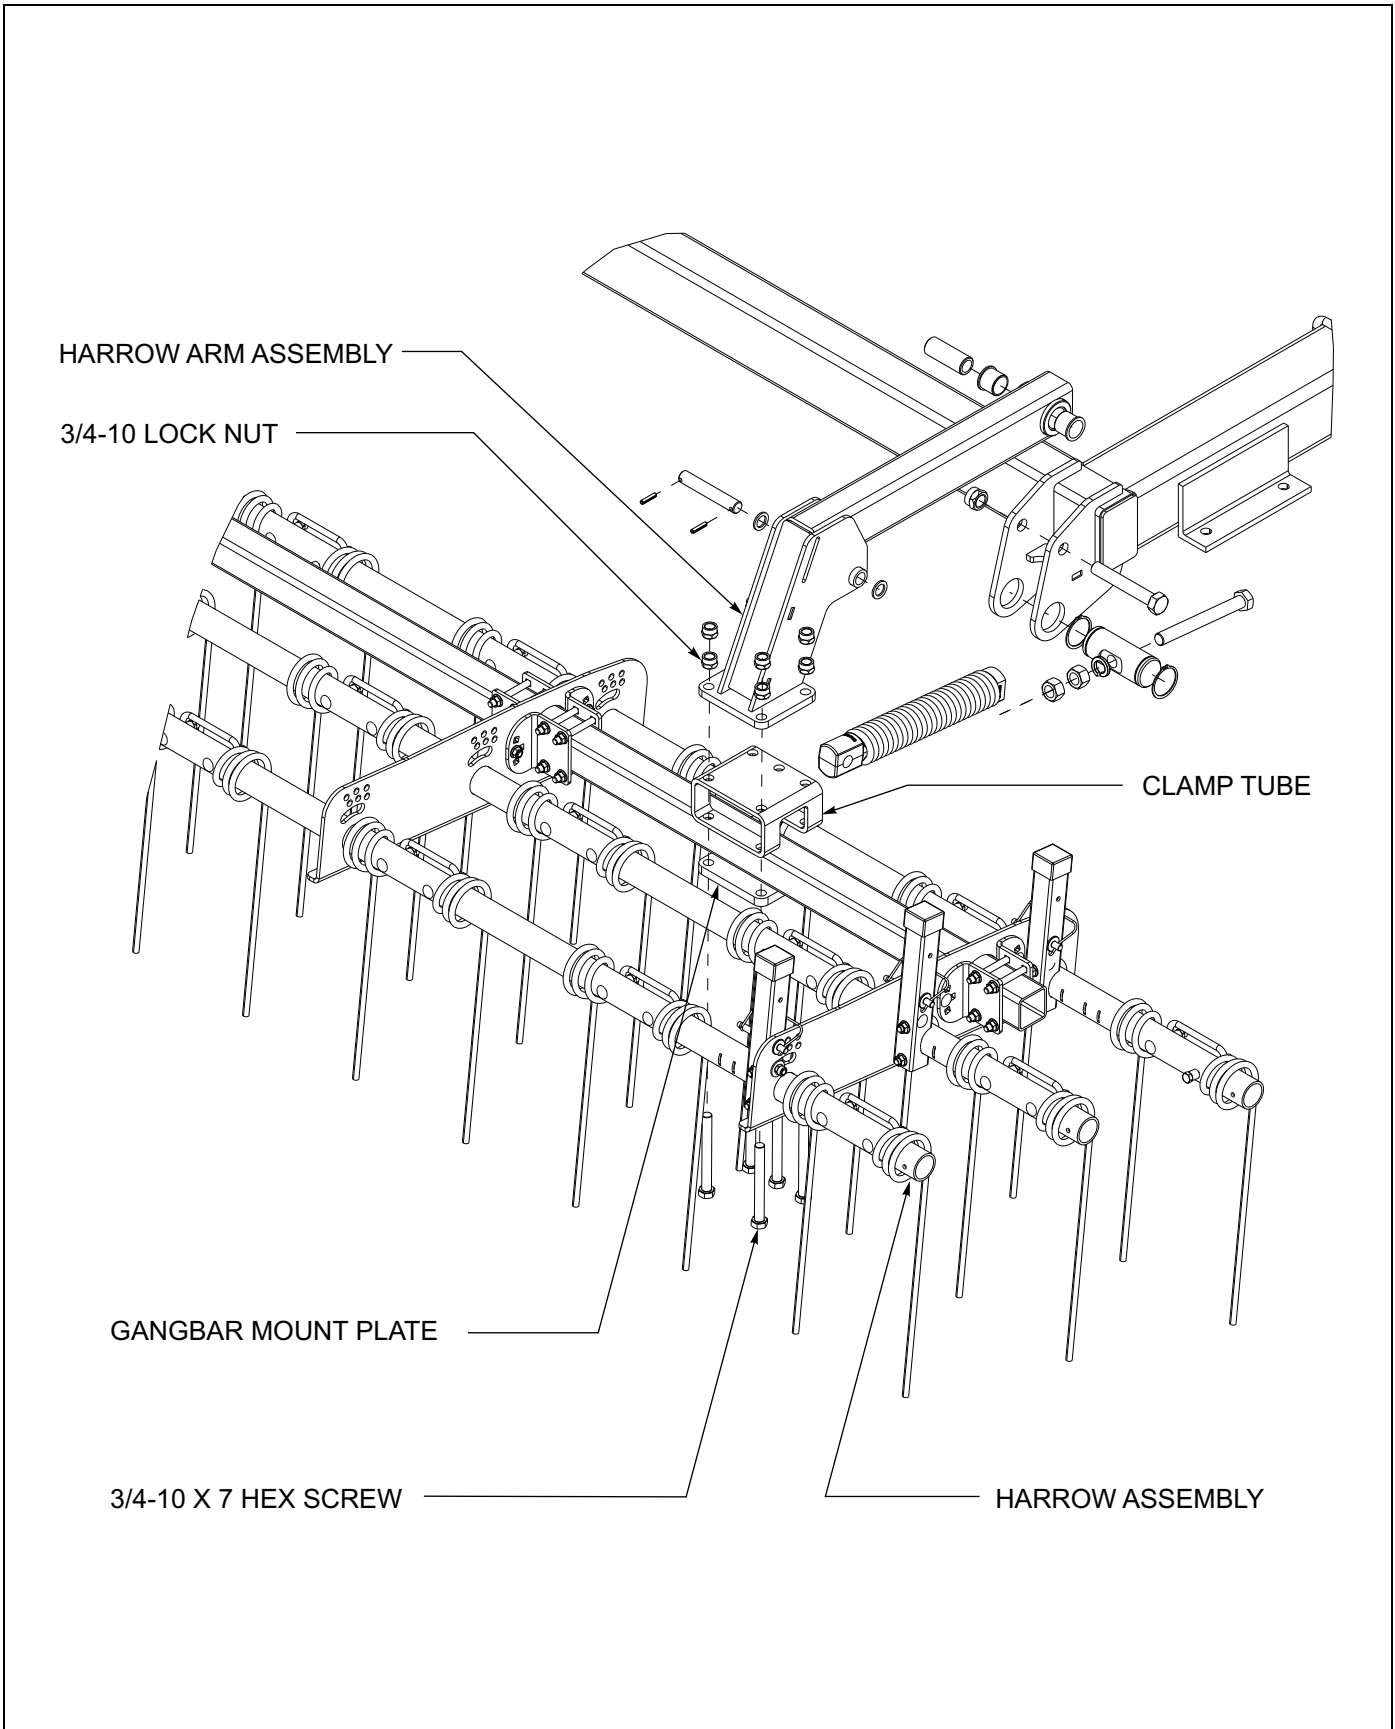

Figure 3-7: Coil Tine Harrow Installation
9. Mount the harrow sections to the bottom of the reel arms using gangbar mount plates, clamp tubes, 3/4-10 x 7 screws, and 3/4-10 locknuts. Install a second 3/4" locknut on the mounting bolts to secure the clamps (**See Figure 3-7.**)
8. Turn the 1-8 x 9 adjusting bolts to set the reel to the desired operating height. Secure the 1" nut and lock washer against the 2-1/2 dia pin. Lock the other 1" nut again the front end of the spring. Repeat for each conditioner reel arm and set all spring lengths the same for even reel heights (**See Figure 3-7.**)